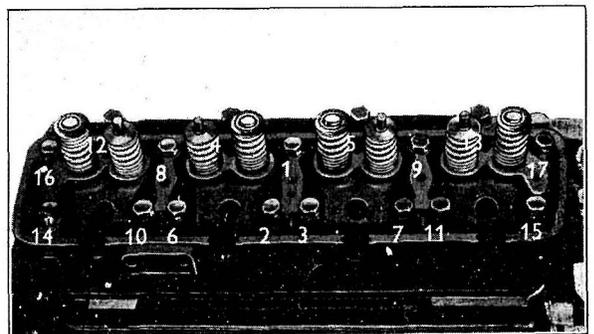

Fig. 49
48. Assemble the cylinder head, remove the locating studs and fit the cylinder head bolts. Tighten the bolts evenly to a torque of 85 to 90 lb. ft. (11.75 to 12.44 kg.m.) in the correct sequence as shown in Fig. 49.